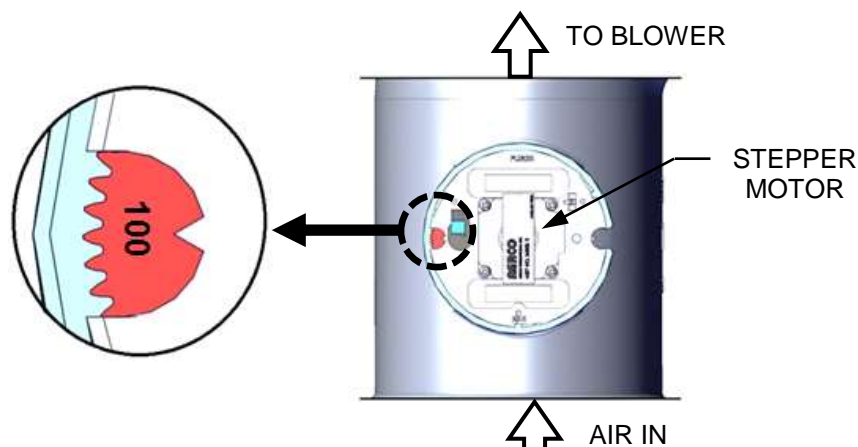

Figure 3-2: Air/Fuel Valve In Purge Position
- b. The Air/Fuel Valve rotates to the full-open purge position and closes purge position switch. The dial on the Air/Fuel Valve (Figure 3-2) will read 100 to indicate that it is full-open (100%).